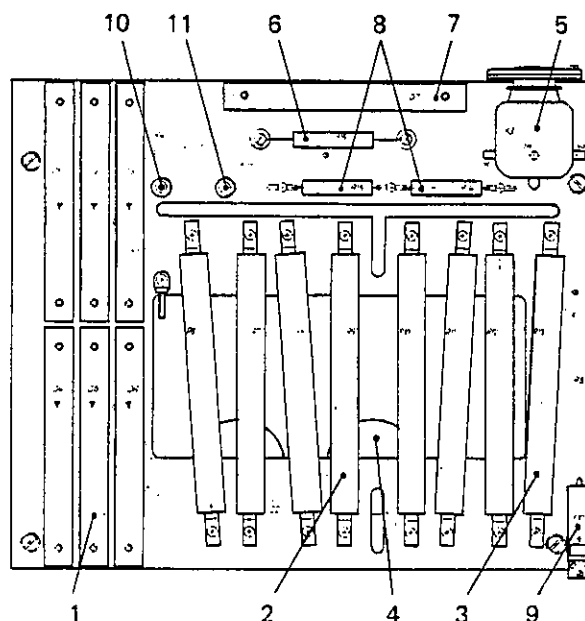

Fig. 8
- d. The fully insulated center conductor has to be attached to the high voltage outlet after passing through the transducer (refer to Fig. 8, Item 10).
- e. The fully insulated center conductor of source 1 is to be passed through the transducer T3 and that of the source 2 through the transducer T4 and attached to the high voltage outlets Fig. 8, Item 2 and Fig. 8, Item 3.